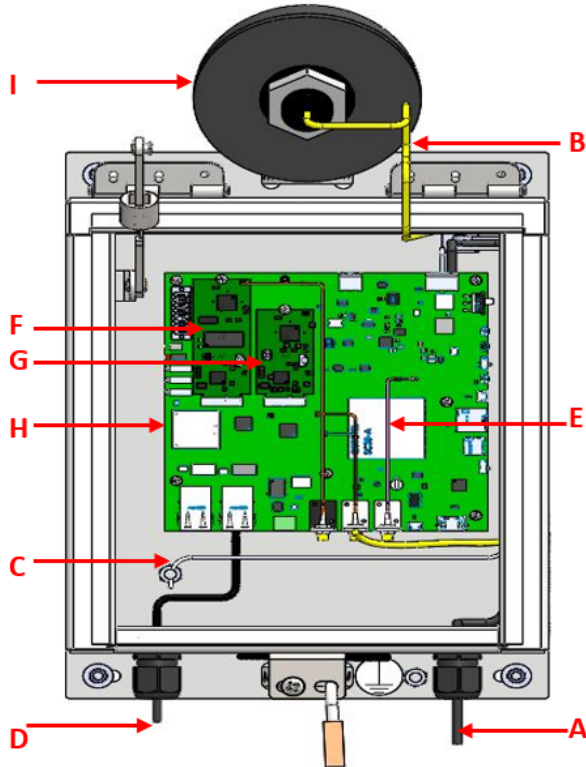

Figure 2-1 – Gateway Parts
The Cellular models of the Gateway use a single piece antenna which has capability of WiFi/BT, LTE and GPS as shown in Figure 2-1. It contains omni-directional antennae and the radiation patterns are stable across all major cellular (2G/3G/4G) bands. The individual antennae connect by using SMA (M) connectors.